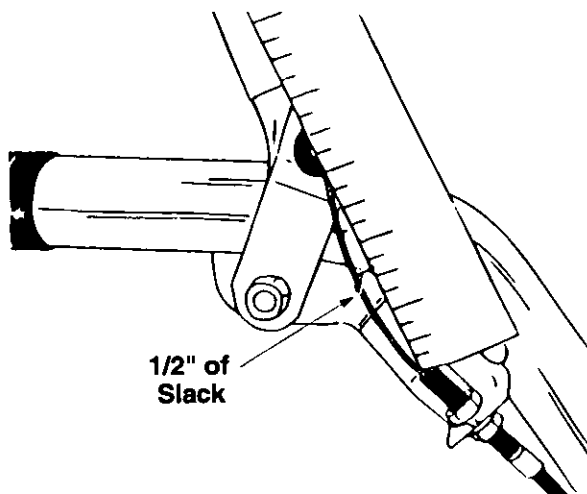

Figure 10
5. With the clutch lever released (in the "up" position, all the way forward), adjust the bottom nut at the cable bracket so there is 1/2" of slack in the control wire as shown in Figure 10. Tighten the upper nut against the bracket. Carefully squeeze the clutch lever against the handle. The control wire should now be straight.